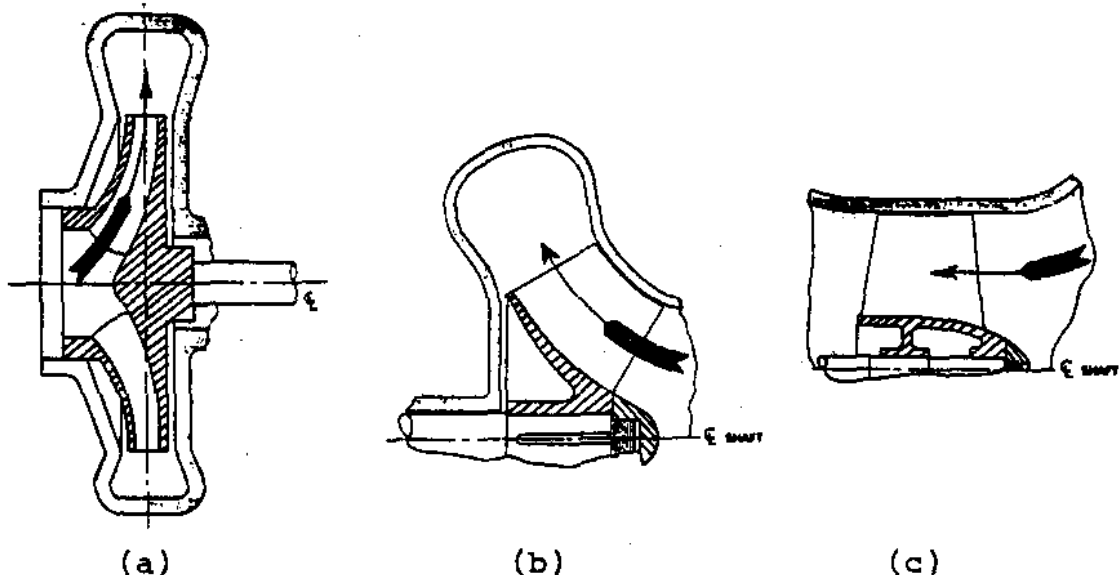

Figure 8
- (a) Radial Flow Pumps - flow enters the impeller axially and leaves radially as in Figure 8 (a).
- (b) Mixed Flow Pumps - flow enters axially and leaves at some angle between radial and axial as in Figure 8 (b).
- (c) Axial Flow Pumps - flow enters axially and leaves axially as in Figure 8 (c).